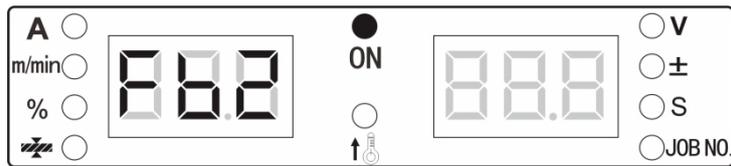

Fig. 3-22 Model query display interface
1. Enter the internal menu, and turn the panel knob of the welding power source to **Fb2**, as shown in Fig.3-22.